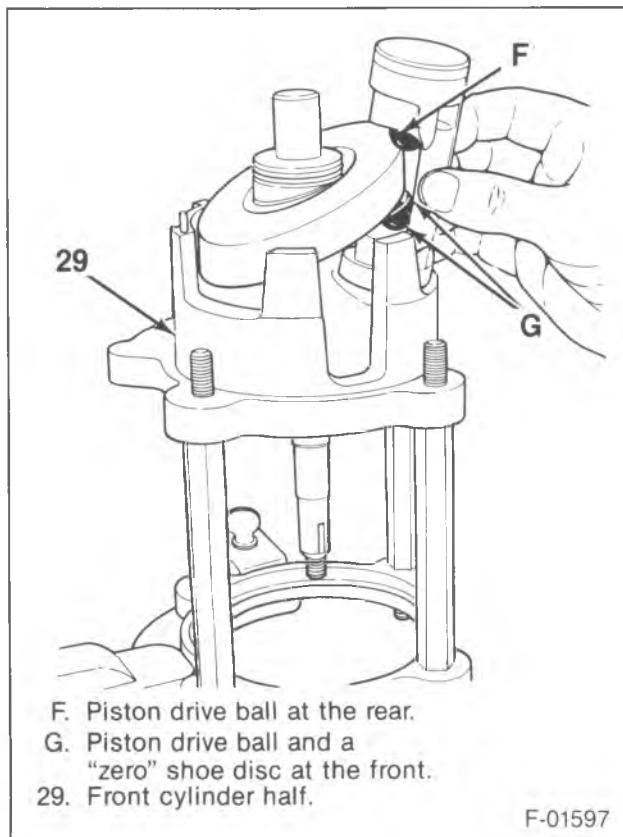
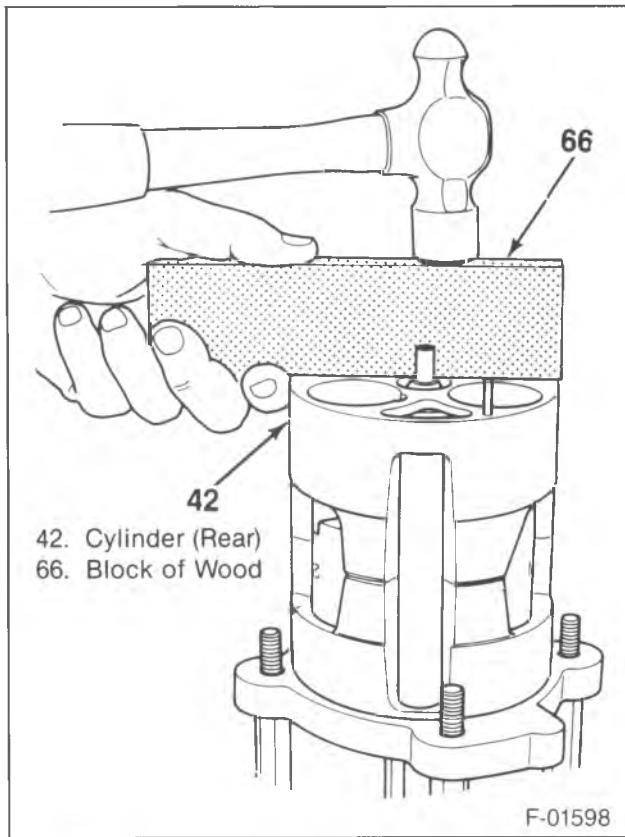

Figure 30—Installing the Piston during the Gaging Operation
Figure 31—Assembling the Cylinder Halves
- Do not install the shoe discs (34) on the rear of the piston (32).
9. Rotate the shaft and axial plate (39) until the high point of the axial plate is over the No. 1 piston cylinder bore.
10. Lift the axial shaft assembly (39) up a little out of front cylinder half (29).
11. Position the No. 1 piston (32) over the No. 1 cylinder bore (notched end of the piston being on the bottom and the piston straddling the axial plate) and lower the shaft to allow No. 1 piston to drop into its bore (figure 30).
13. Install the rear cylinder half (42) on the pistons, aligning the cylinder with the discharge cross-over tube hole in the front cylinder.
- Tap the piston into place using a plastic mallet or piece of clean wood and a hammer (figure 31).